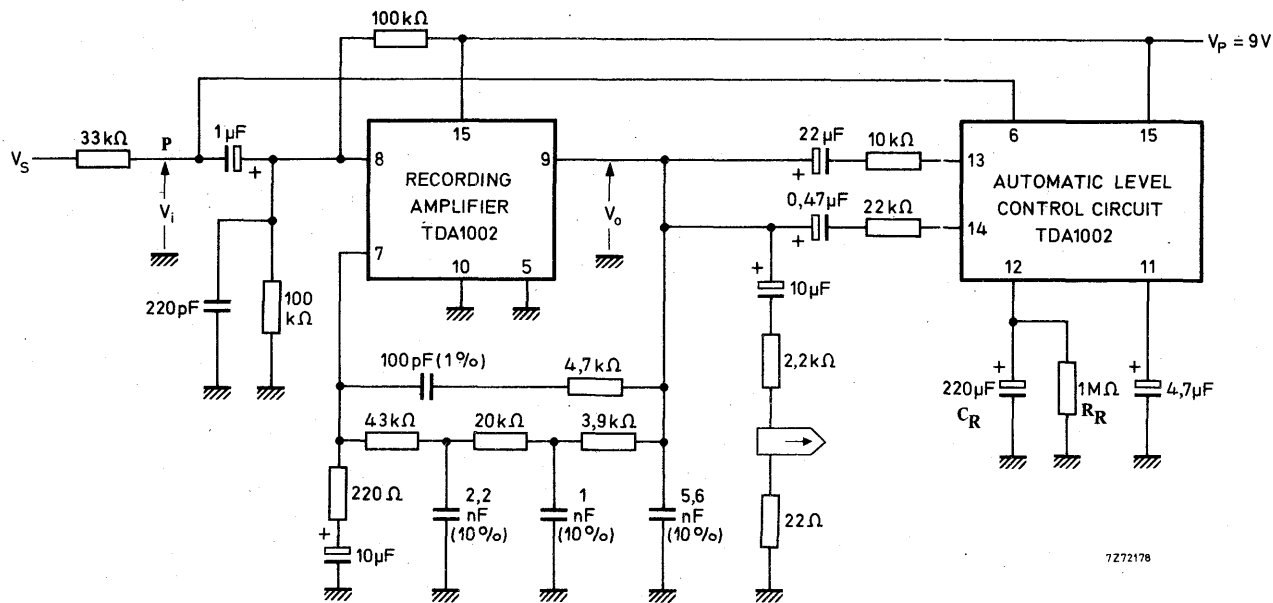

Fig. 7.
7) Measured in Fig. 7 on page 9.